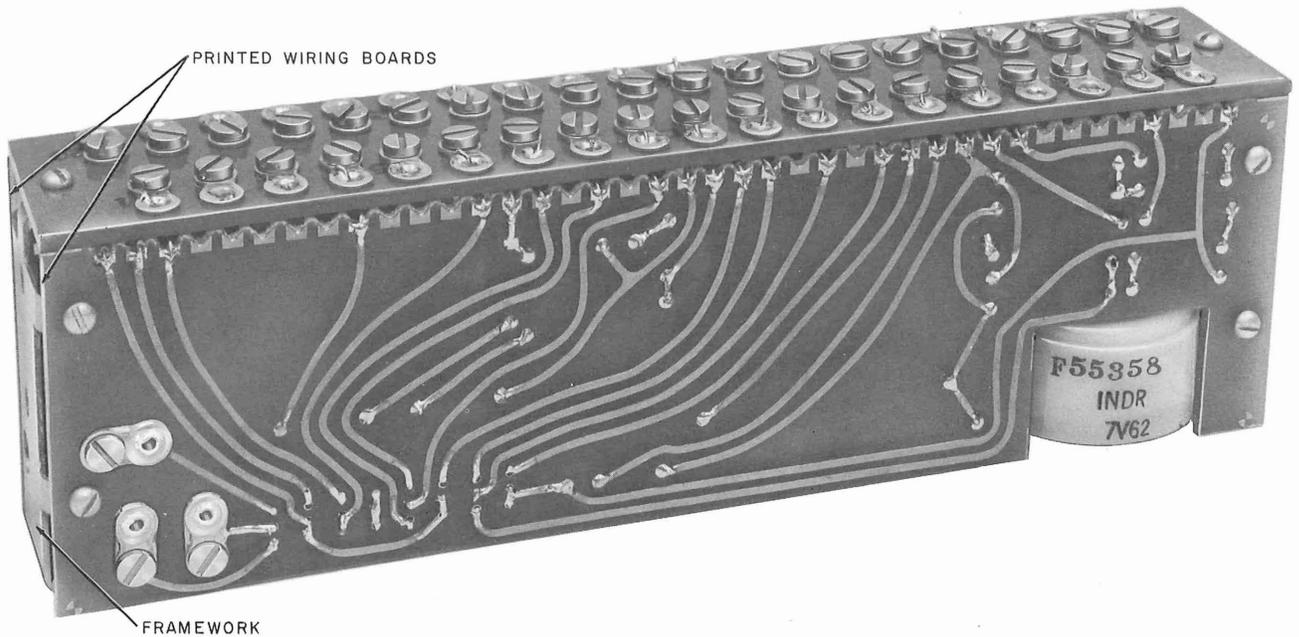
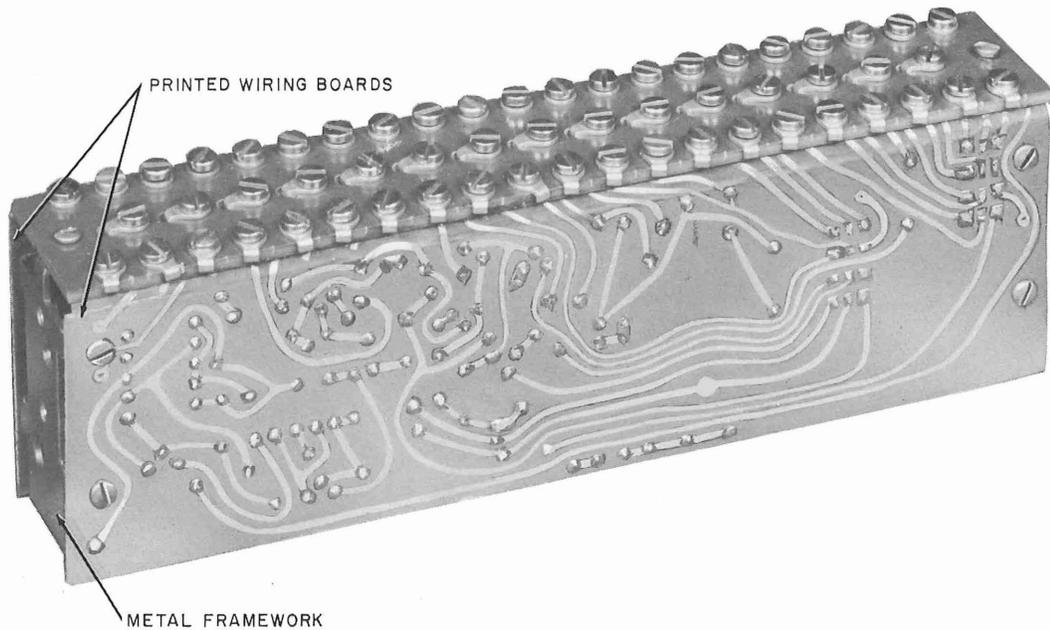

Fig. 4—58A Control Unit
Fig. 5—3A3 Data Unit
1.08 Maintenance of the 58A control unit (Fig. 4) and ◆3A3 data unit◆ (Fig. 5) are limited to complete unit replacement.